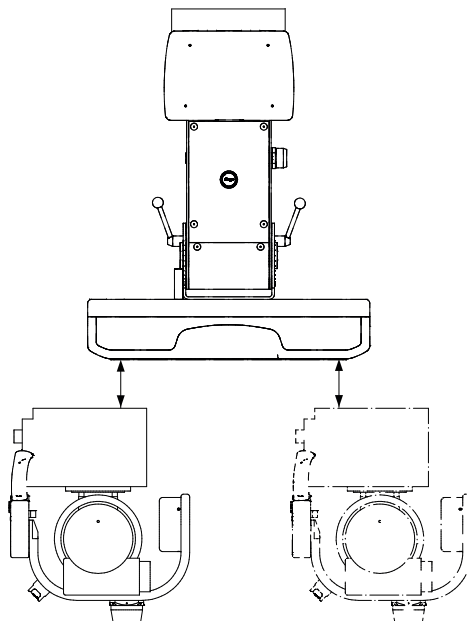

Fig. 4-70 *Alignment of Wallstand*
2. Move the OTC and place the collimator 10 mm from the image receptor of the Wallstand according to Fig. 4-70 *Alignment of Wallstand*.